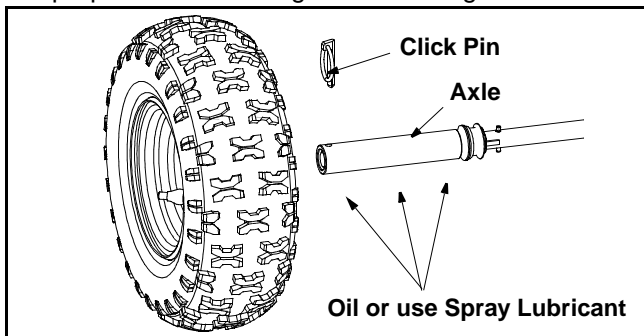

Figure 12
- Oil or spray lubricant into plastic wheel bearings inside the wheel hubs at least once a season. Remove wheels, clean and coat axles with a multi-purpose automotive grease. See Figure 12.